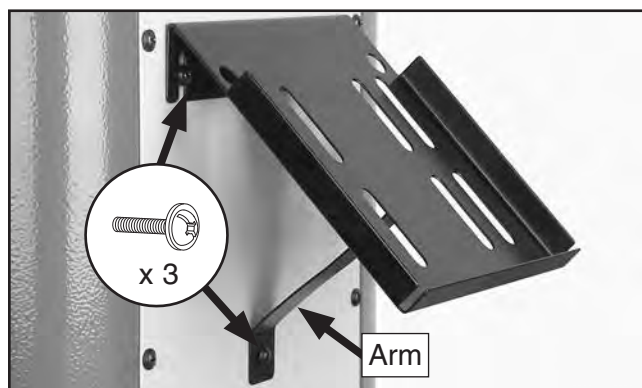

Figure 22. Push block holder installed.
22. Thread (2) #10-24 x $\frac{3}{8}$ " flange screws half way into the cabinet right panel, slide the push block holder over the screws, secure the arm with a third #10-24 x $\frac{3}{8}$ " flange screw, then tighten all the screws (see **Figure 22**).